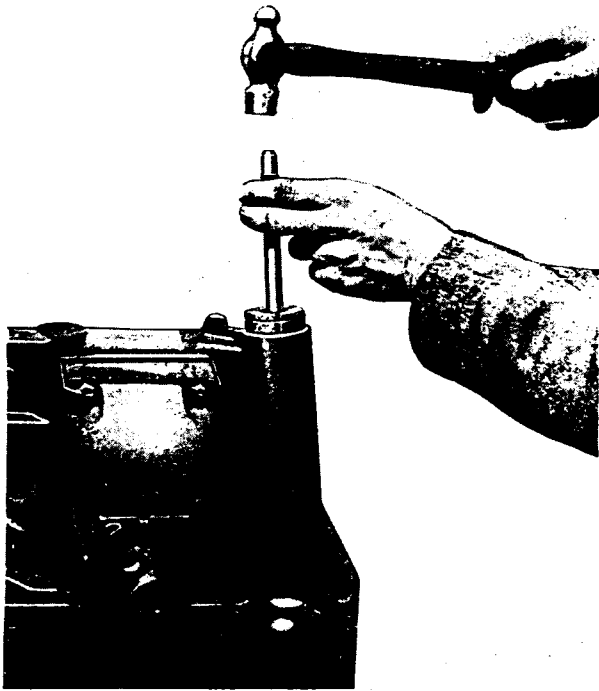

FIG. 6
3. Place split boss of expanding tool supplied with the reaming kit on bush bore, as shown in Fig. 6 and tap through ball-ended rod. This corrects any compressive distortion which has taken place on inserting bush.